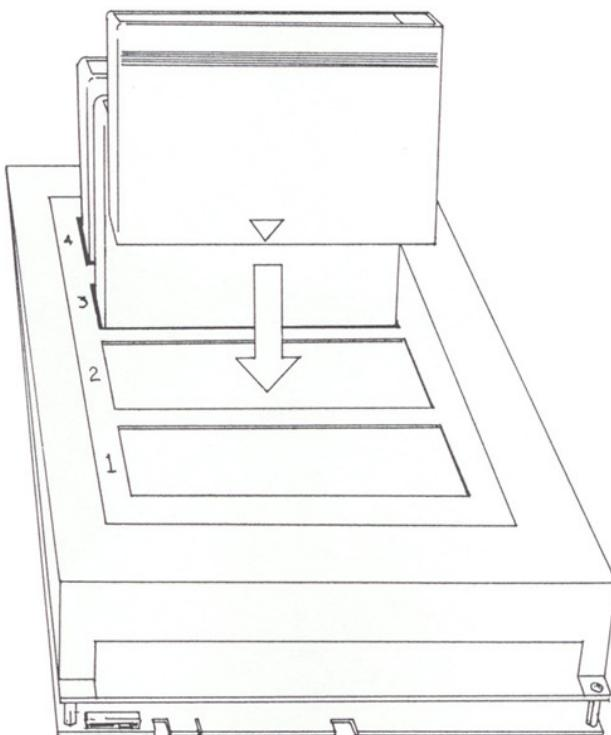

Figure 2, Cartridge Direction
3. Locate a unused slot in the Main PCB and carefully install the Game Cartridge into it, noting the position as shown in Figure 2. *DO NOT FORCE THE CARTRIDGE INTO THE SLOT.* If positioned correctly, it will slide in and fit snugly in place. The slots are numbered to match the Marquee Title Card slots.
This screen displays the current settings of the Hardware Dip Switch on the MV-Main PCB. These should all be OFF for normal game operation. NOTE: This is only provided to *VIEW* the hardware dipswitch settings. Any required adjustments must be made physically on the MV-MAIN PCB, see Figure 2 for the location of the Dipswitch.